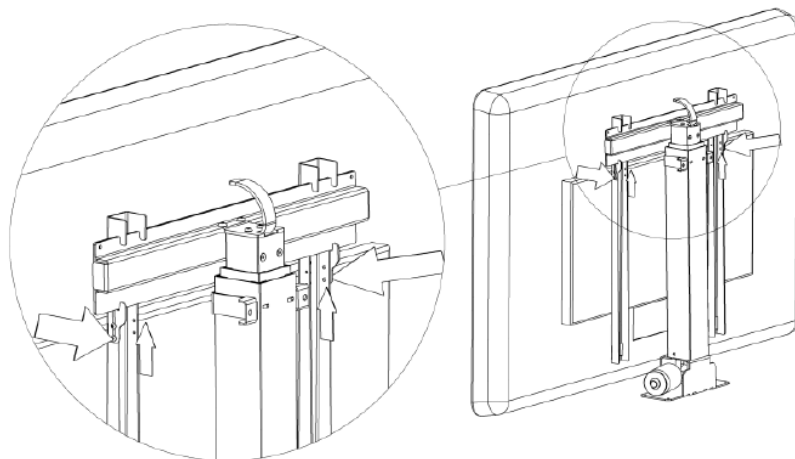

fig. 8
11. Hang the TV with mounted vertical beams on the lift horizontal beam (fig. 8). For easier assembly, you can raise the lift to the open position.
12. Move the vertical beams lock in the accordance with an arrow (fig. 8), and then tighten them with the provided allen key.